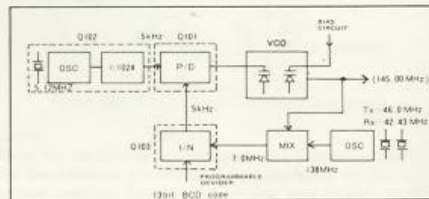

Fig. 2
- (1) Signals to be applied to 1/N circuit are frequency divided at a predetermined count down ratio, and signals thus divided are fed to the phase detector circuit via the 1/N circuit.
- (2) Until reference signals and 1/N circuit signals coincide within the phase detector circuit, repeated controls are exercised within the Fig. 2 loop.
- (3) When reference and 1/N circuit signals coincide, it is called a locked state.